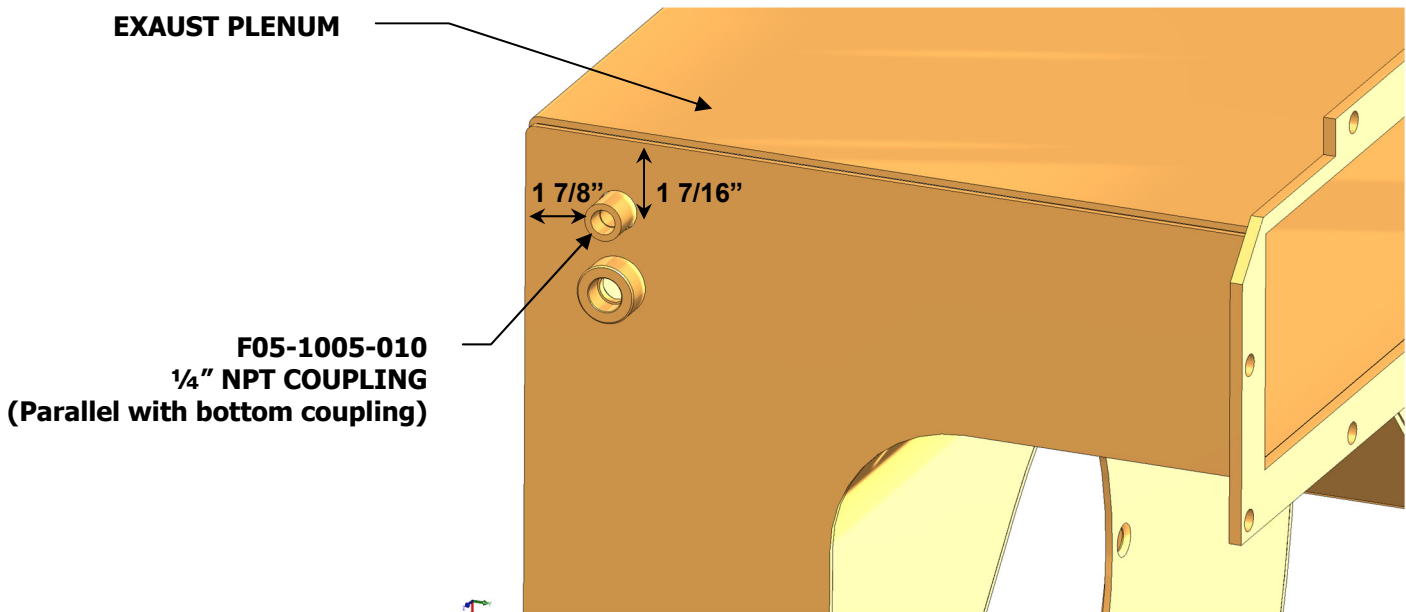

Figure 1
2. Drill 7/8" diameter hole next to differential pressure connection on the off-driller's side of traction motor at dimensions shown in Figure 1.